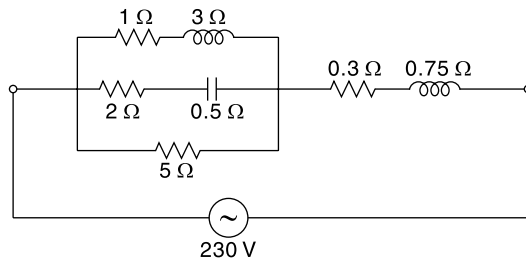

Fig. 14.93
14.108 Determine the impedance of the circuit shown in Fig. 14.93 and the power consumed in each branch.